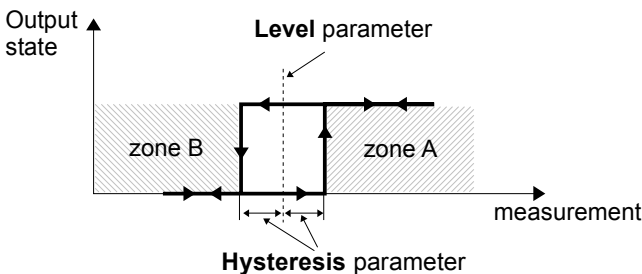
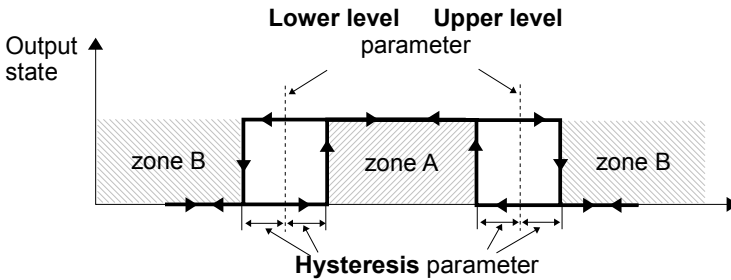

Fig. 7.83. One threshold control of the virtual relays
Fig. 7.84. Two threshold control of the virtual relays
- **Mode** - this parameter allows the user to select the method of operation of the output, the **Mode** parameter has the following options (see **Fig. 7.83** and **Fig. 7.84**):
Levels parameter block (see **Fig. 7.83**, **Fig. 7.84** and **Fig. 7.85**)
- **Hysteresis** – by defining this parameter the user can move the level for changes in the output state (see **Fig. 7.83** and **Fig. 7.84**),